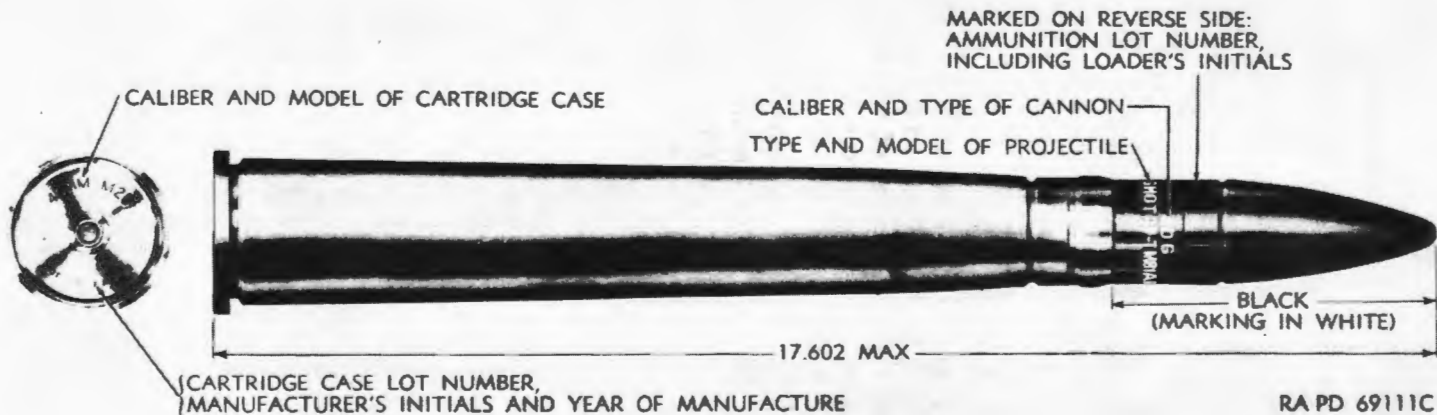

Figure 364. Cartridge, AP-T, M81A1, for 40-mm guns.
a. *General.* Ammunition and ammunition components are completely identified by the painting and marking (including and ammunition lot number) on the ammunition items and on all original packing containers. The components of various types of rounds may be identified by the marking thereon and by the color scheme (when employed). Refer to figures 364 through 367.
d. Painting. Ammunition is painted primarily to prevent rust and to provide, by the color, a means of identification as to type, due consideration being given to the requirements for camouflage. The color scheme is as follows (figs. 364 and 365) :